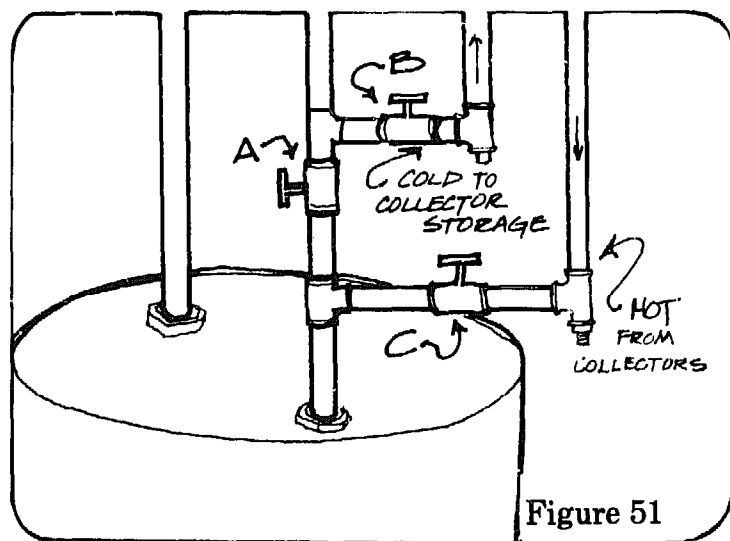

Figure 51
1) Preheat System: If used for preheating the hot water output from the solar storage tank will go into the cold water supply line on the conventional hot water heater as shown in figure 51.